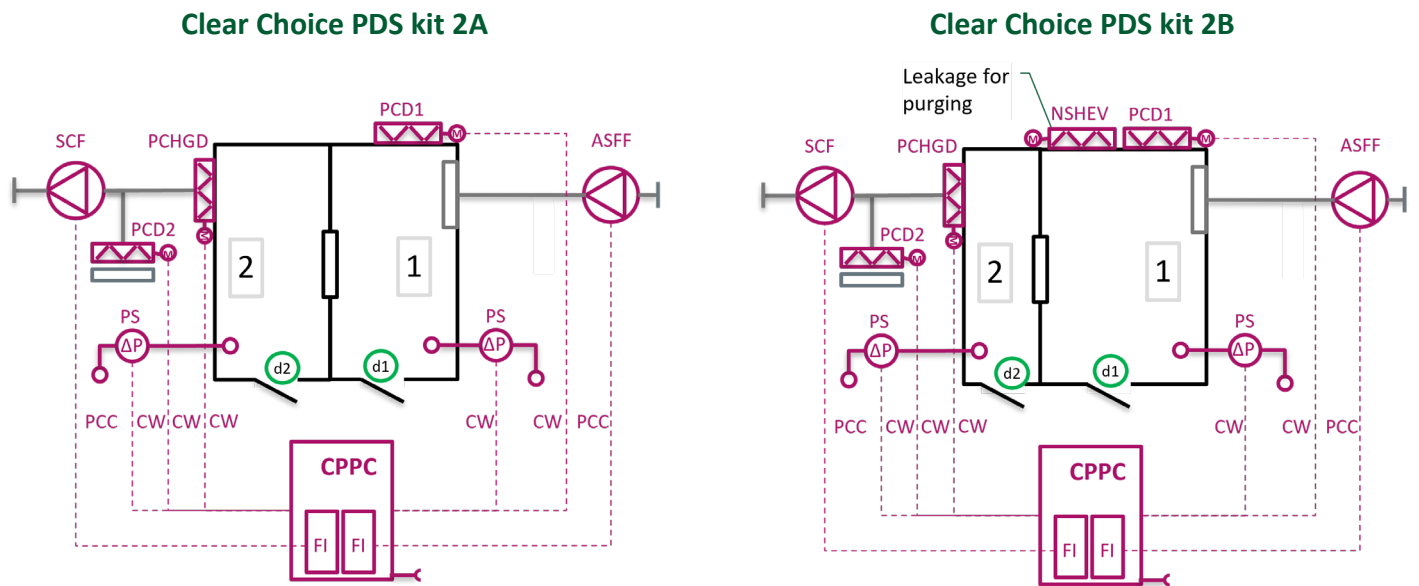

Figure 5 Overview of PDS kit 2A & 2B
- Active supply system (Zone 1, Figure 5 Overview of PDS kit 2A & 2B) consists of supply fan, pressure control damper and pressure sensor/ control. In addition to kit 1A, kit 1B allows for a permanently open vent between the pressurised space and the exterior for purge ventilation throughout the operation of the PDS.
- Active air release system (Zone 2, Figure 5 Overview of PDS kit 2A & 2B) consists of smoke control fan, pressure control damper and pressure sensor/ control. In addition, this kit includes a pressure control hot gas damper which acts to restrict the air release shaft for pressure control of the air release zone.
Key for Figure 5